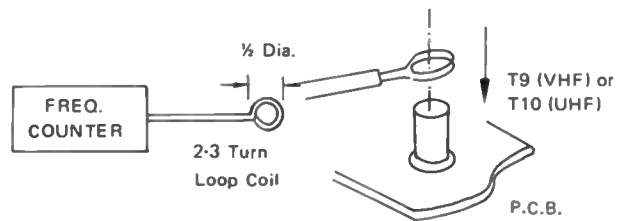

FIGURE 10. VHF/UHF LOCAL OSCILLATOR
- Step 2: Couple the frequency counter thru a pick-up coil to oscillator coil T9 (VHF and UHF 2nd local oscillator 54.7MHz) or T10 (UHF) on the tuner front-end section. Refer to Figure 10.
- Step 2: Connect a DC V.T.V.M. to pin 6 of IC 1(LM307N) and couple the frequency counter to T10 as shown Fig. 10.